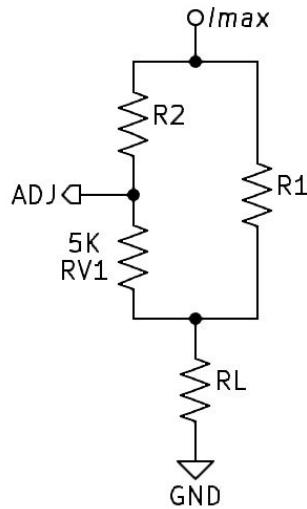

Figure 12a.6: LM317 I_{max} Circuit Redraw
- The LM317 I_{max} circuit redraw Figure 12a.6. shows RV1 in the extreme position where pins 1 and 2 are connected.